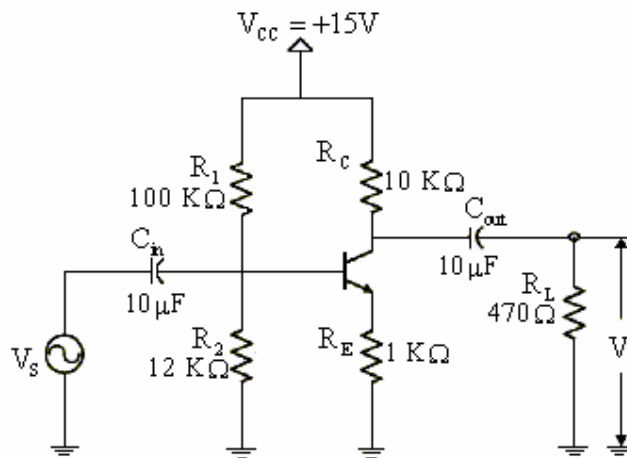

Fig.4: CE Amplifier
8. To measure the output resistance R_{out} of the (CC) amplifier, connect a 1 $K\Omega$ potentiometer between the output coupling capacitor and ground. Adjust the potentiometer until V_{out} drops to one half its previous value. Remove the potentiometer and measure its resistance. By the voltage divider rule, this resistance equals the output resistance of the amplifier.
11. To demonstrate the load effect on a common emitter amplifier, connect the circuit shown in Figure 4: